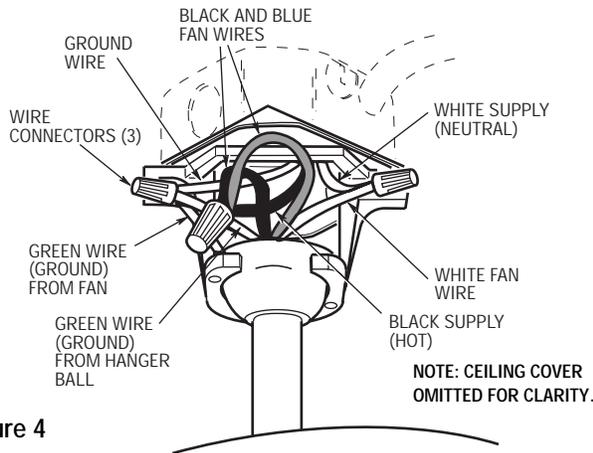

Figure 4
2. Securely connect the fan motor white wire to the supply white (neutral) wire using wire connector supplied (Figure 4). Securely connect the fan motor black wire and blue wire to the supply black (hot) wire using wire connector supplied (Figure 4). After connections have been made, turn leads upward and carefully push leads into the outlet box, with the white and green leads on one side of the outlet box and the black and blue leads on the other side of the outlet box.